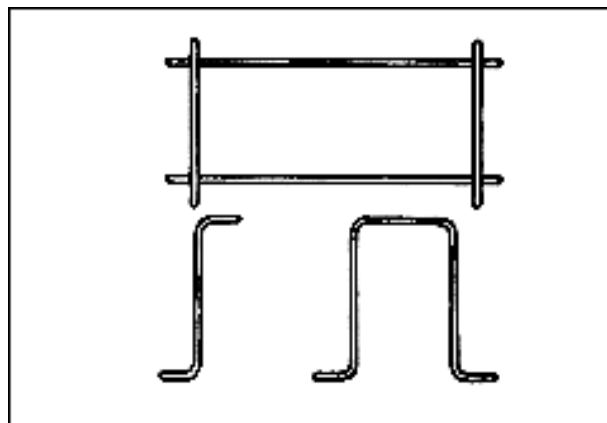

Figure 9-5. Metal ties
- **Metal ties.** When a wall bond has no header courses, use metal ties to bond the exterior wall brick to the backing courses. Figure 9-5 shows three typical metal ties.